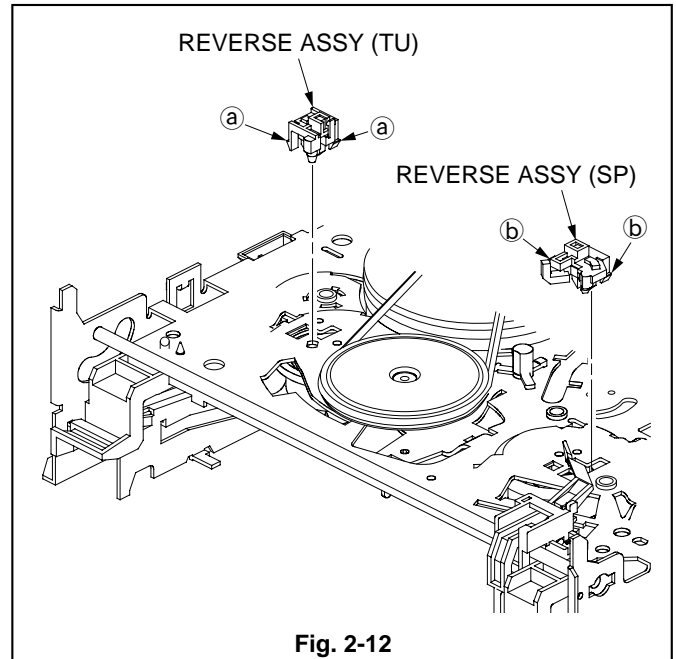

Fig. 2-12
1. Release the two catches (a) of the REVERSE ASSY (TU) shown in the Fig. 2-12 to remove the REVERSE ASSY (TU).
2. Release the two catches (b) of the REVERSE ASSY (SP) shown in the Fig. 2-12 to remove the REVERSE ASSY (SP).
2. Install the REVERSE ASSY (TU) shown in the Fig. 2-12.
3. Clean the dirt on the transparent part of the REVERSE ASSY (SP) with a VIDEO HEAD cleaning cloth.
4. Install the REVERSE ASSY (SP) shown in the Fig. 2-12.